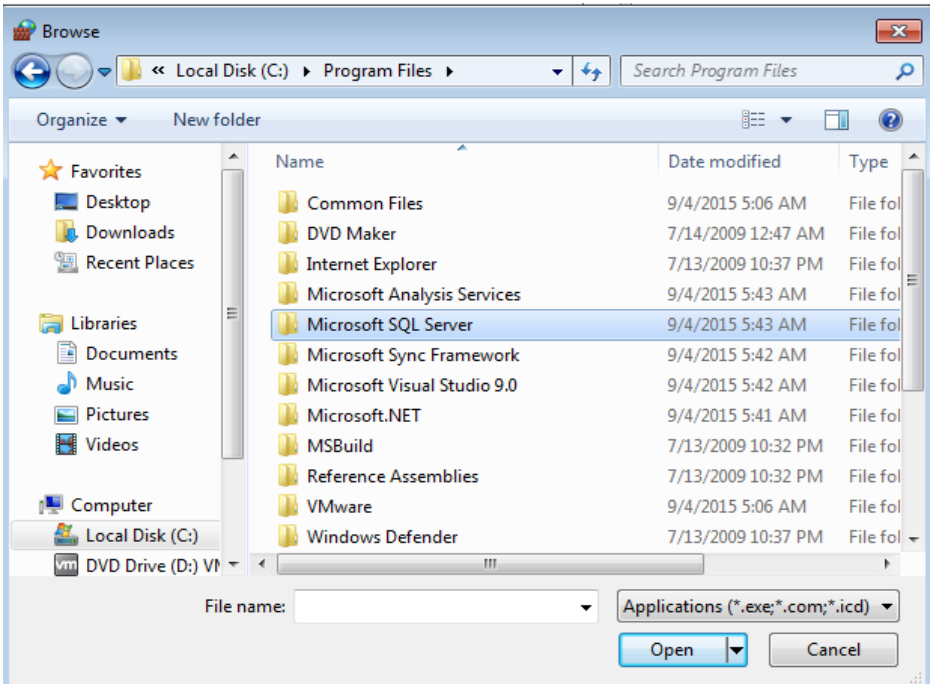

Fig.1.20 Program Files
(7) Open Microsoft SQL Server folder (see Fig.1.20).